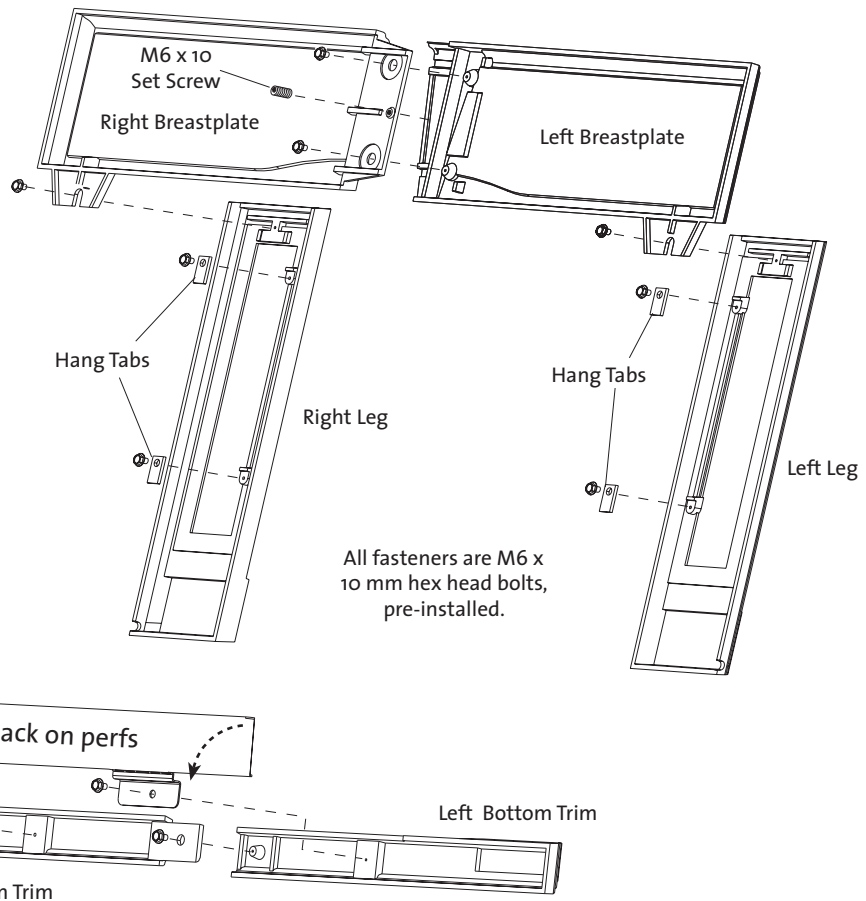

Figure 14. Bottom Surround Trim assembly.
- 4. If the Riser Bar is used,** attach the two Bottom Surround Trim panels together with the single M6 x 10 hex bolt. Attach the Trim Mounting Bracket to the back of the Bottom Trim assembly using the other two M6 x 10 bolts. **Be sure to orient the bracket as shown in fig. 14.**
Bend the perforated mounting plate down 90° as shown in Fig 14. Insert and center the bracket plate sandwiched between the firebox and the Riser Bar.